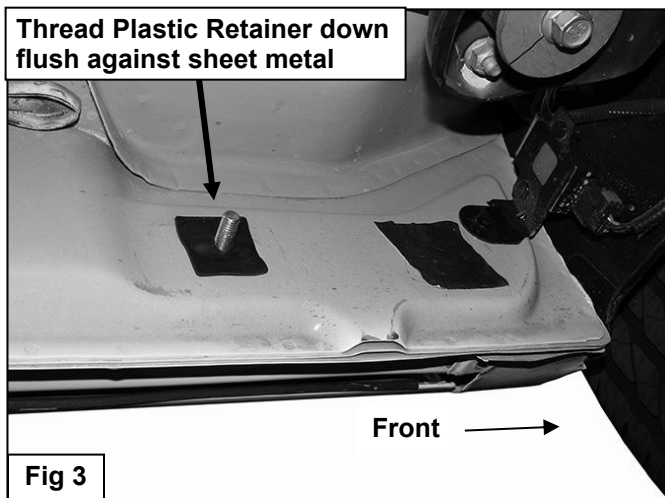

Fig 3
- Starting toward the front of the driver side, locate the (2) oval holes in the inner body panel. Remove the tape covering the second factory hole, **(Figure 1)**. Thread (1) Plastic Retainer part way onto (1) M10 x 35mm Bolt Plate, **(Figure 2)**. Insert the Bolt Plate into the factory hole on the rocker panel. Hold the Bolt Plate in place with one hand and continue to thread the Plastic Retainer down against the sheet metal until it holds the Bolt Plate in place, **(Figures 3 & 12)**. **IMPORTANT:** The Plastic Retainer is designed to prevent the Bolt Plate from falling into the body panel and to aid Bracket installation.